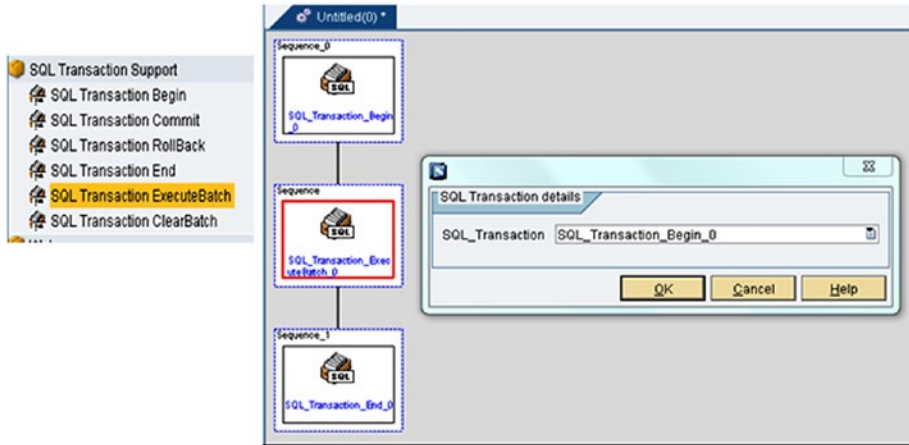

Figure 7-175. SQL Transaction Execute Batch action block and its configuration
- *SQL Transaction Execute Batch:* This action block is used to perform batch processing, as shown in Figure 7-175.